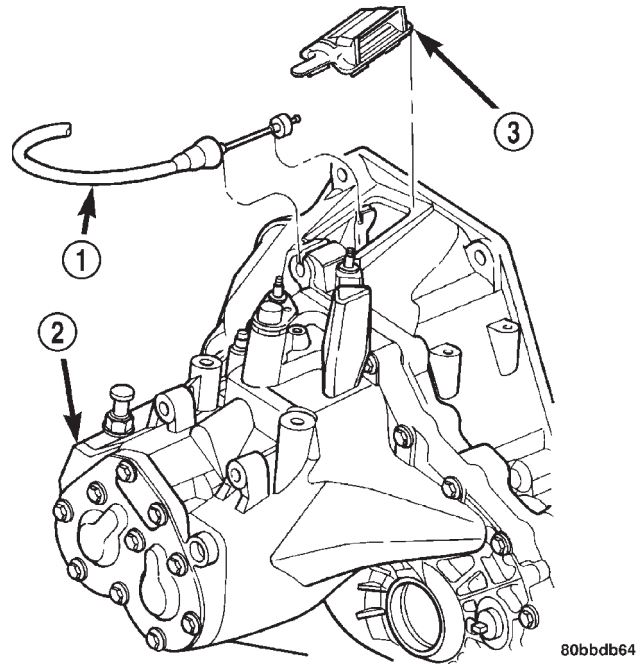

Fig. 11 Clutch Cable at Transaxle
(4) Remove battery tray from bracket.
(5) Disconnect ground cable at battery tray bracket.
(6) Disconnect back-up lamp switch connector.
(7) Remove bellhousing cap (Fig. 11).
(8) Disconnect clutch cable from release lever and remove from transaxle (Fig. 11).
- (18) Connect clutch cable to fork and secure to transaxle (Fig. 11).
- (19) Install bellhousing cap (Fig. 11).
- (20) Connect back-up lamp switch connector.
- (21) Connect ground strap to transaxle upper mount bracket.
- (22) Install battery lower tray and battery, and tighten battery hold down clamp to secure battery.
- (23) Install the air cleaner/throttle body assy. as follows:
- (24) Connect the battery cables.